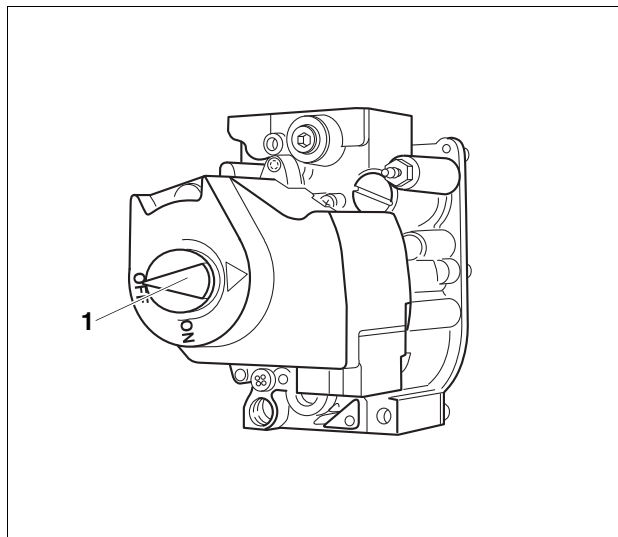

Fig. 14 Gas valve
24. If the gas valve operates correctly, proceed to step 25. If the gas valve does not operate correctly, switch ON/OFF switch (→ Fig. 14) on the gas valve clockwise to the OFF position immediately. Close main gas shut-off valve. Disconnect heating system from the power supply and inform the customer service technician or gas company.